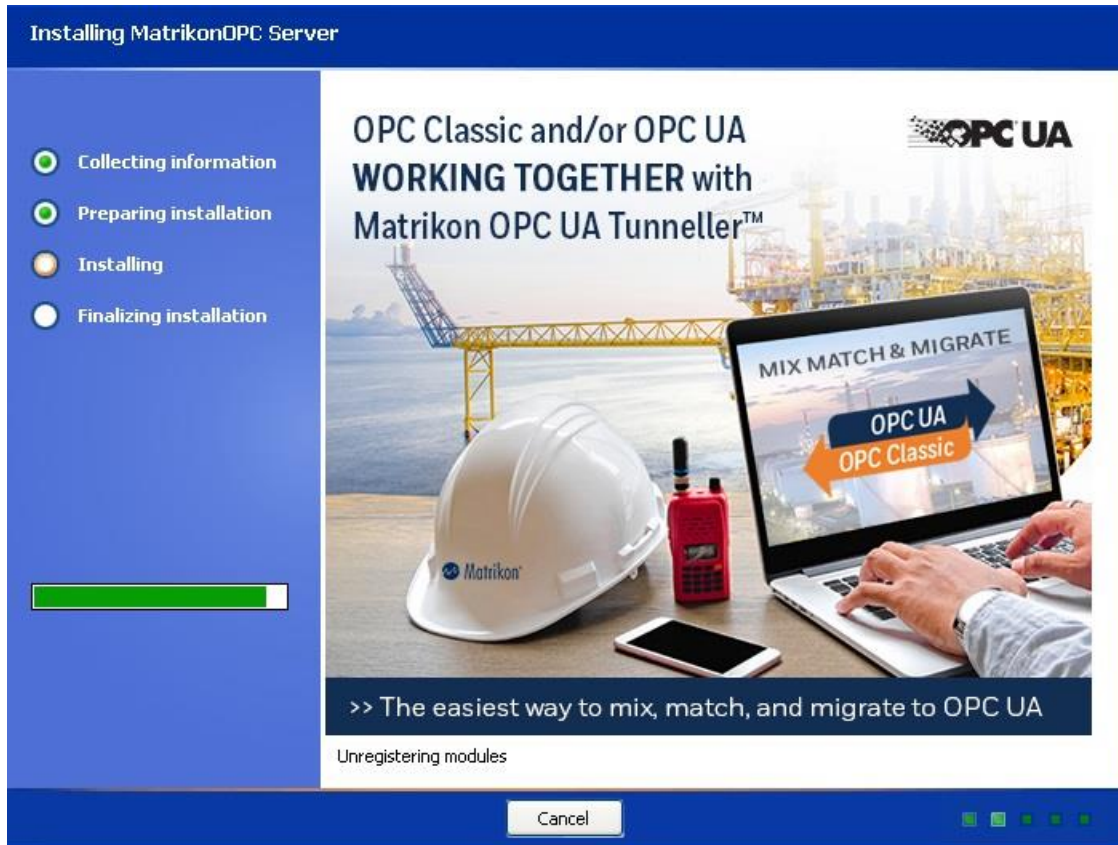

Figure 87 - Installing Matrikon OPC Server Screen
21. Click on the **Next** button. The **Installing MatrikonOPC Server for GDA** screen (Figure 87) appears, installation begins, and the product files are copied to the computer.